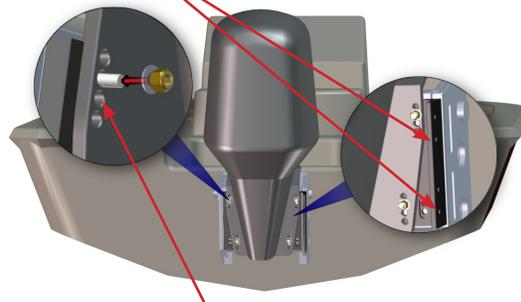

Figure 8
STEP 6: Remount your outboard engine using the hardware recommended by your boat manufacturer and torque to their specifications (FIG. 7/FIG. 8).